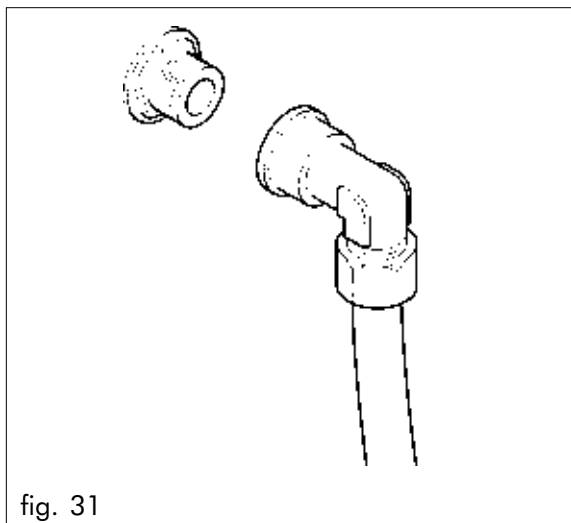

fig. 31
- the foreseen connection is a 3/8 gas (Fig.31).